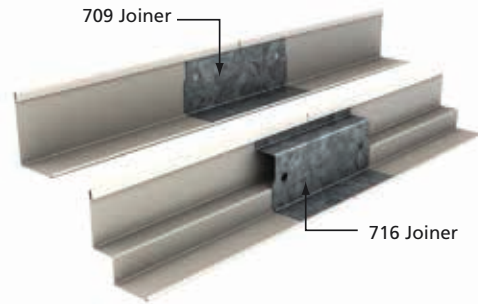

FIGURE 1: WALL ANGLE JOINERS
3. Mark the ceiling height on the walls and fix the perimeter trim with suitable fasteners at max. 600mm centres, ensuring the fixing is made into the studs. Mitre the corner intersections and use joiners to connect angles as per Figure 1.